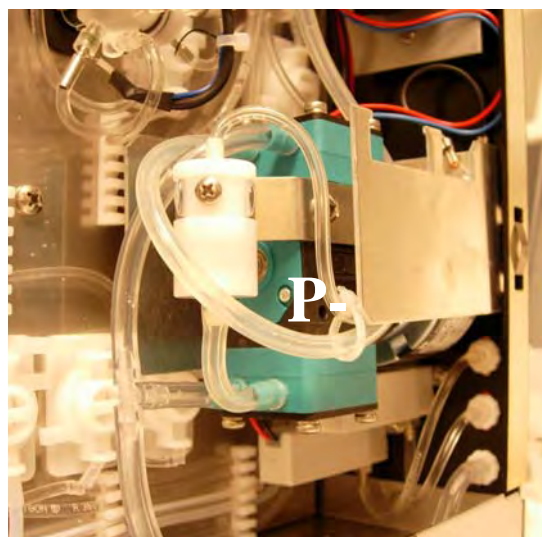

Figure 2.11
1. Blood is aspirated through the shear valve with a vacuum created by the waste pump, see Figure 2.11.